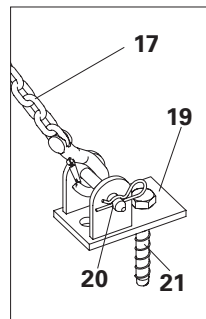

Fig. A10.09
1. Mount RS base plate (19) on the existing construction with the PERI anchor bolt 14/20 x 130 (21). Bracing angle 60°. (Fig. A10.09)
2. Attach the 3.0 kN anchor chain (17) to the 3.0 kN turnbuckle (18) and attach the 3.0 kN turnbuckle (18) to the RS base plate.
3. Tighten the turnbuckle (18) until the anchor chain is taut using pins and cotter pins (20). (Fig. A10.09)